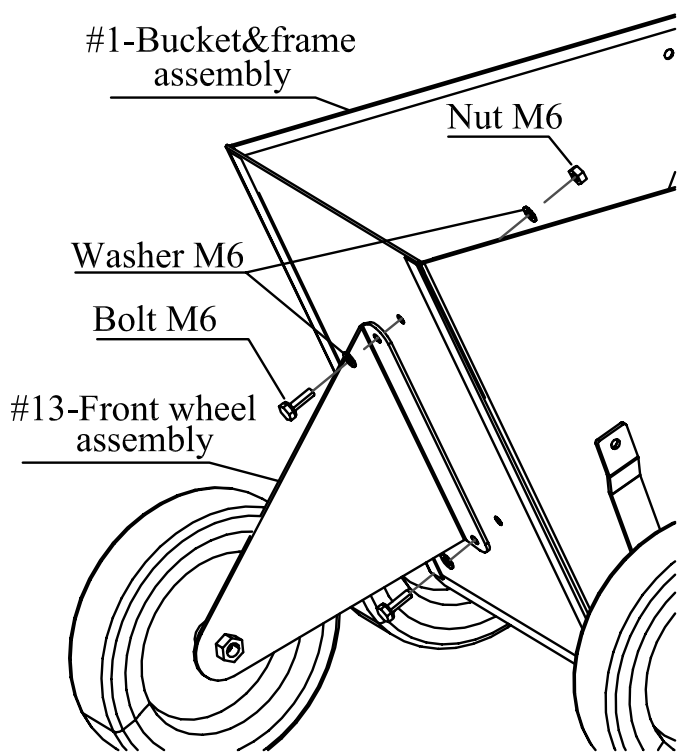

FIGURE 1
Remove attached Bolts M6x15mm, Nuts M6 and Washers M6 from Front Wheel Assembly (13). Install the Front Wheel Assembly to the Bucket & Frame Assembly (1) with the Bolts and Nuts that were just removed. See Figure 1.